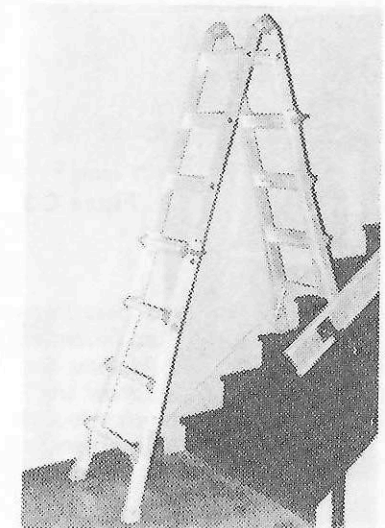

Figure B-6
- b. Unlock the lock assemblies on the upper side to be used and adjust for proper angle to fit the staircase and reinsert upper lock assemblies as seen in Figure B-6.